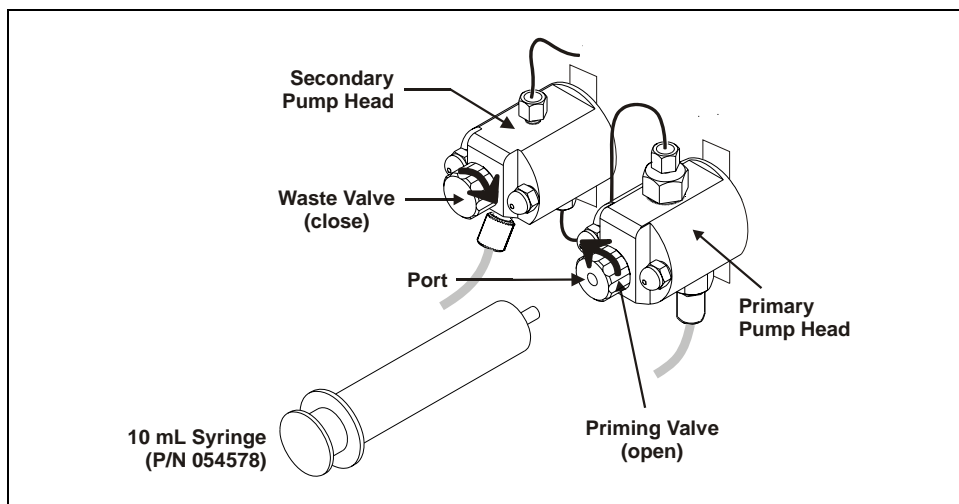

Figure 5-31. Priming the Eluent Lines
2. Connect a 10 mL syringe (P/N 054578) to the priming valve port on the primary pump head (see Figure 5-31).